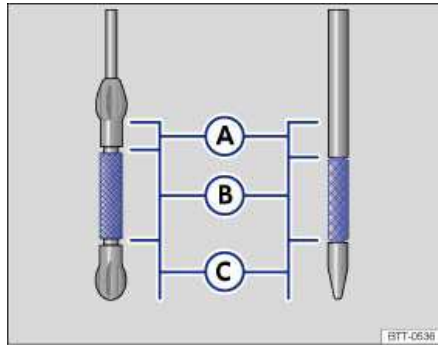
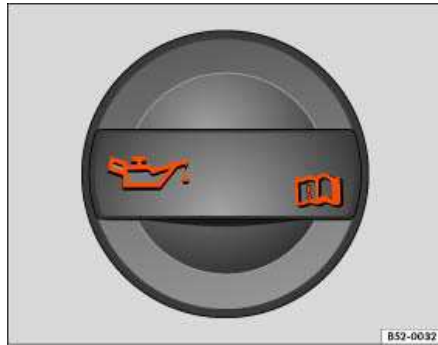

Fig. 160 Oil dipstick with engine oil level marks.
Fig. 161 In the engine compartment: Engine oil filler cap.
4. Find the oil filler opening and the dipstick. You can identify these by the  symbol on the engine oil filler cap ⇒ fig. 161 and the colored handle on the dipstick. If you are not sure where the cap and the dipstick are located, see your authorized Volkswagen dealer or authorized Volkswagen Service Facility for assistance.
7. Remove the dipstick again and read the oil level on the dipstick ⇒ fig. 160 as described below:
- (A): **Do not** add any oil ⇒ . Continue with step 15.
- (B): Oil may be added (about 1 pint / 0.5 liter). Continue with step 8 or step 15.
- (C): **You must** add oil (about 1 quart / 1.0 liter). Continue with step 8.
9. Remove the cap on the engine oil filler opening ⇒ fig. 161.
13. After adding oil, the level must at least be in the center of the ⇒ fig. 160 \(B\) area, but never above (A) ⇒ .